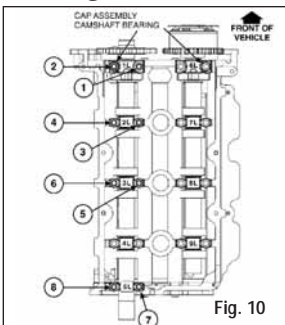

Fig. 10
4) Torque bolts in sequence shown in **Figure 10** (page 5), to 72 in. lbs. (8 Nm) excluding cam cap number 4L camshaft cap.
Below, **Figures 10 and 11**